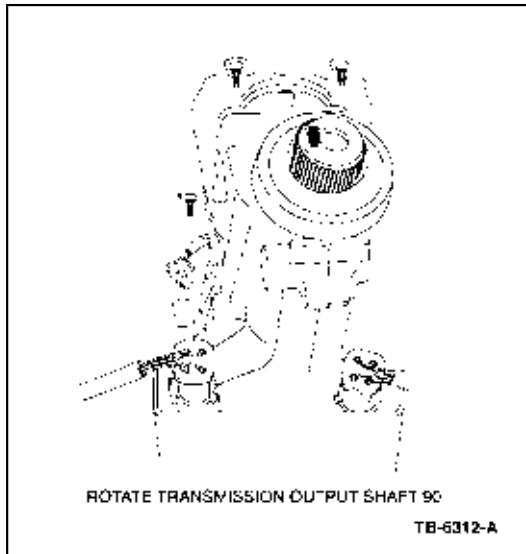

Figure 6 - Article 01-8-3
6. Rotate the transmission output shaft 1/4 of a turn (90 degrees) so that the dot is at the 9 o'clock position (Figure 6).